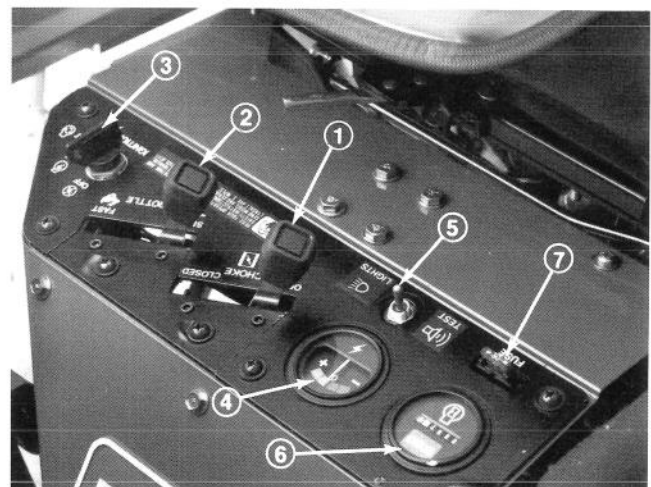

Figure 16
**THROTTLE CONTROL** (Fig. 16) – The Throttle Control gives the operator the ability to control the speed of the engine. Moving the Throttle Control toward the “FAST” position increases engine RPM; moving Throttle Control toward “SLOW” will decrease engine RPM.
**CHOKE** (Fig.16) – To start a cold engine, close carburetor choke by moving choke control forward to the “CLOSED” position. After engine starts, regulate choke to keep engine running smoothly. As soon as possible, open the choke by pulling it rearward to the “OPEN” position. A warm engine requires little or no choking.
**IGNITION SWITCH** (Fig. 16) – Insert key into switch, turn clockwise as far as possible to “START” position to start engine. Release key as soon as engine starts; key will move to “ON” position. Turn key counter-clockwise to “OFF” position to stop engine.
**AMMETER** (Fig. 16) – The ammeter indicates the rate of battery charge and discharge.
**FUSE** (Fig.16) – Fuse is part of the electrical circuit. It contains a 20 Amp fuse.
**LEAK DETECTOR TEST / LIGHT SWITCH** (Fig.16) – From middle operating position, move switch rearward to check operation of leak detector alarm and time delay. Move switch forward to operate optional headlights.
**HOUR METER** (Fig.16) – Indicates the total hours of machine operation. The hour meter starts to function whenever the key switch is rotated to “ON”.
**SEAT ADJUSTING HANDLE** (Fig.16) – Lever on left side of seat allows four inch fore and aft adjustment.